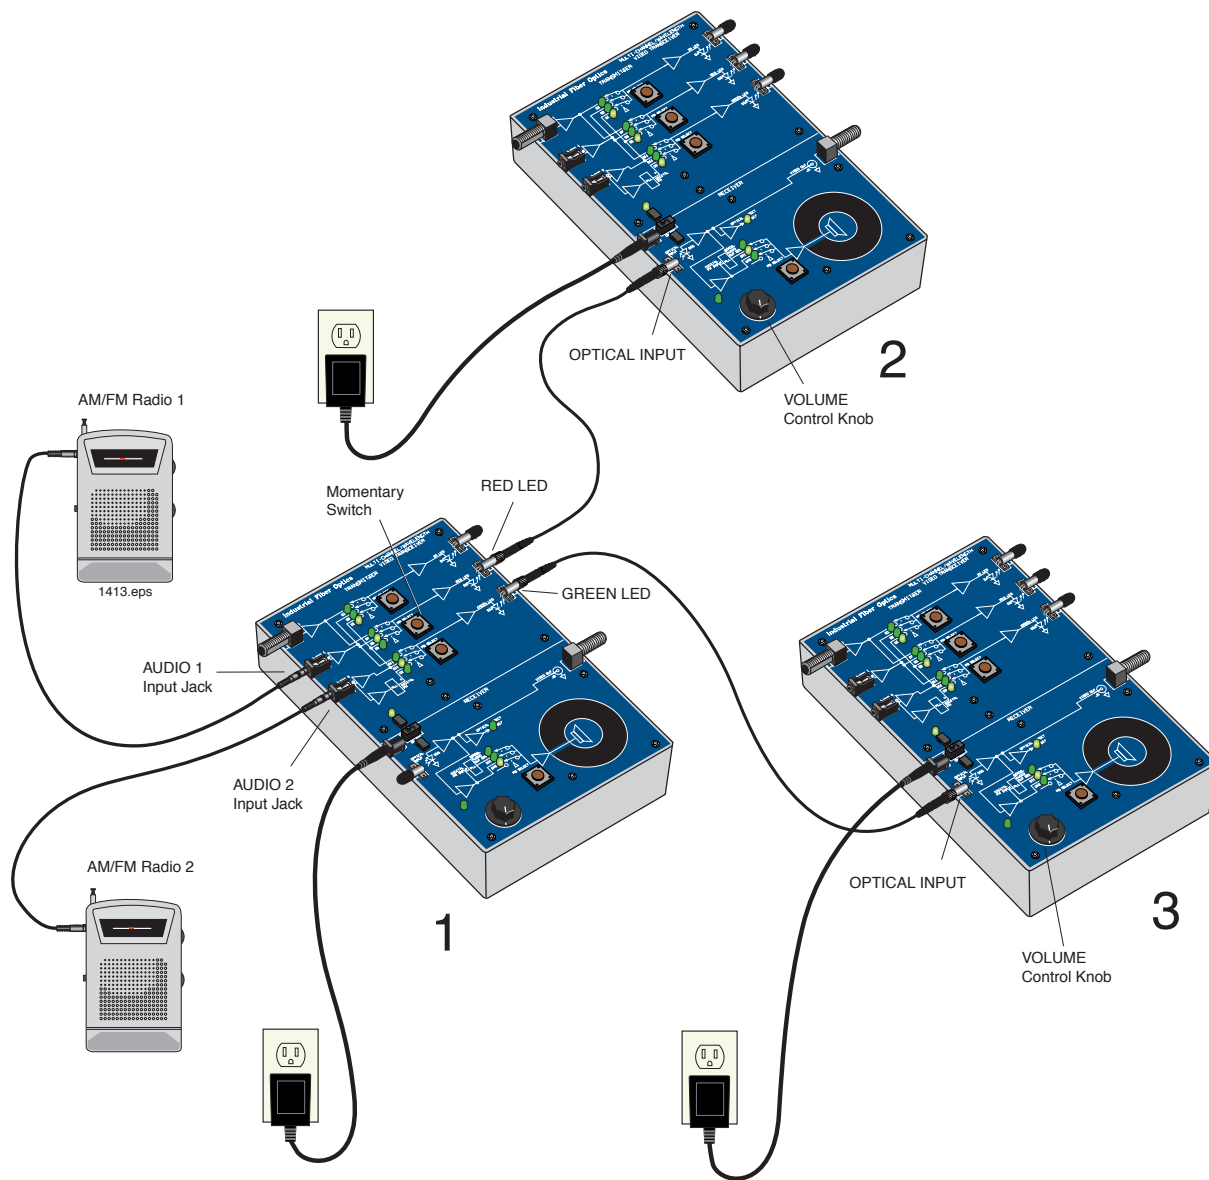

Figure 30. Equipment setup using Transceiver 1 to transmit to two different locations.
2. Your equipment set-up should look like Figure 30 when completed. You may wish to reference this figure as you complete the following steps.